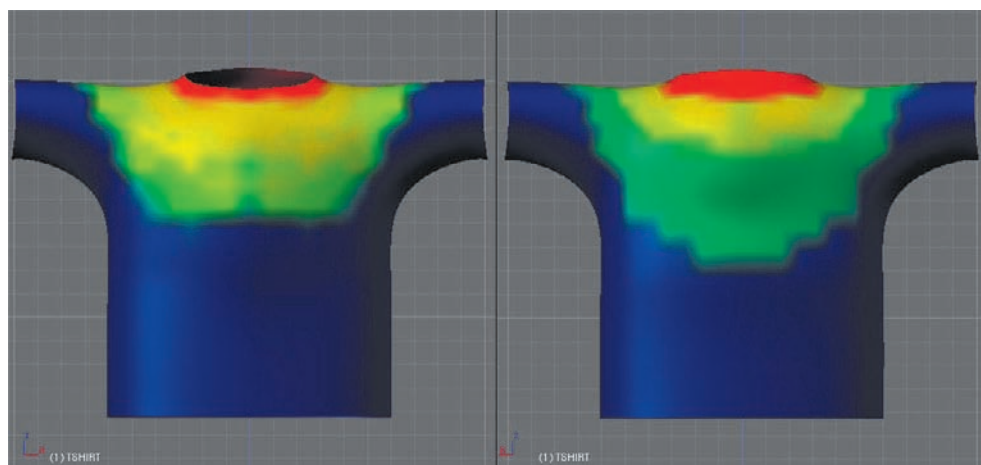

Figure 3.65 Painting cloth-pinning weights, front and back
5. Now add the pinning vertex group to the shirt mesh. Do this in Edit mode by clicking New under Vertex Groups. In this example, the pinning group is called Softgoal, in honor of it being essentially the same concept as a soft-body goal vertex group, but any name will do. As you've seen in previous examples, the soft-body goal vertex group weight values determine how fixed the vertices are to their positions as opposed to how freely they move in accordance with the soft body simulation. In cloth simulation, this is called *pinning*. The higher the weight, the less the simulation will affect the mesh and thus the more the mesh will be directly influenced by other deformers such as the armature in this case. Simply put, we want to paint the shirt mesh with high values around places that should not move freely, and with low or zero values in places where the cloth would be expected to move more freely. Tight, body-hugging areas should have high values, and loose flowing areas should have lower values. In the case of a T-shirt, the neck and shoulder area would be expected to stay relatively fixed in relation to the motion of the body. In nature, this is due to gravity and friction. In the simulation, this is helped along by weight painting. Paint the shirt similarly to how it is shown in Figure 3.65 to obtain this effect.